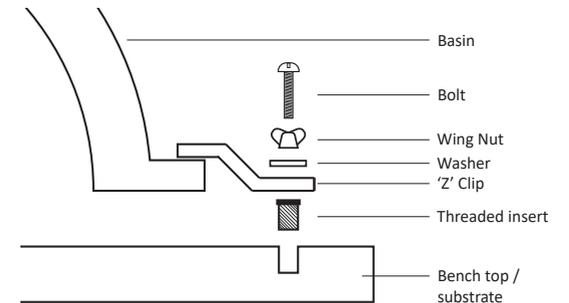

Figure 3.
- Gently place basin on a protective blanket free from debris. Apply a neat generous bead of adhesive silicone sealant around the lip where the basin touches the bench top. See figure 3.